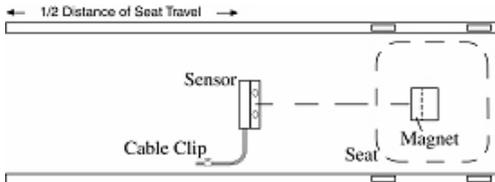
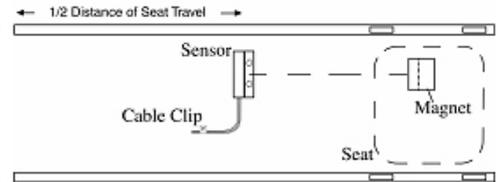
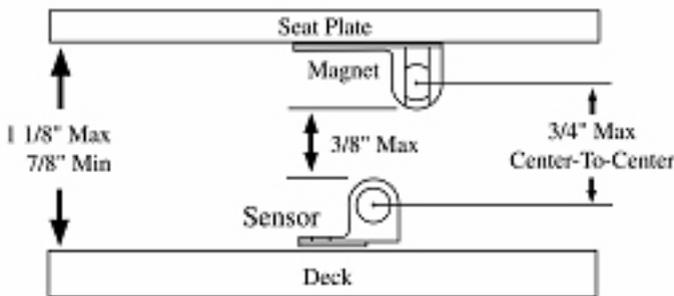

FIGURE 1a: SENSOR AND MAGNET INSTALLATION
FIGURE 1b: SENSOR AND MAGNET INSTALLATION
FIGURE 2: SENSOR AND MAGNET SPACING
- Refer to FIGS 1a, 1b. Note the position of the sensor – it should be close to the center of the seat travel and it MUST be perpendicular to the length of the shell. It is not necessary for the sensor and magnets to be centered between the rails as shown in Figure 1a. They may be positioned off center as shown in Fig 1b. It is essential however that the magnet passes directly over the sensor.
**PLEASE NOTE:** The sensor must be installed at the CENTRE of the seat travel. If the sensor is too close to either end of the seat travel, the COX BOX may indicate ONE-HALF the correct stroke rate. It is essential that the holes in the magnet assembly pass directly over the holes in the sensor. The dashed horizontal line in each figure indicates the correct alignment. If the sensor and magnet are installed offset from the centerline of the seat as in Fig. 1b, the holes of the magnet assembly MUST still pass directly over the holes of the sensor.
Because the distance between the seat plate (to which the magnets will be attached) and the deck (to which the sensor will be attached) varies considerably from shell to shell, you should start by measuring this distance. Refer to FIG 2.
- If the distance measured as in FIG 2 is between 7/8" and 1 1/8" you may mount the sensor and magnet with no further adjustment.
- If the distance measured as in FIG 2 is GREATER than 1 1/8" then you will need to make a spacer of appropriate thickness. You may choose to shim the sensor or the magnet, whichever is easier. DO NOT use any magnetic material for your shim.
- If the distance measured in FIG 2 is LESS than 7/8" then you will have to remove material from either the seat or the deck OR try mounting the magnet on the upper side of the seat plate.
5. Return the stroke seat to its slide and check that the clearance between the magnet and sensor is no more than 3/8" (refer to FIG 2). Check also that the magnets pass directly over the sensor (refer to FIGS 1a, 1b).